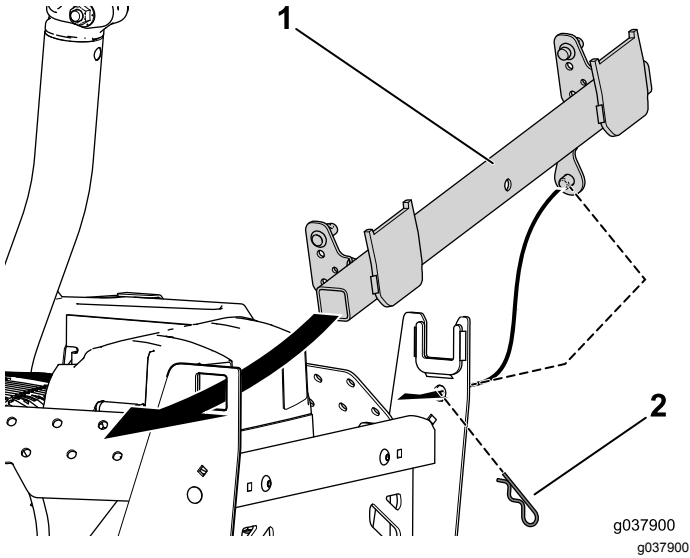

Figure 16
1. Slide the square end of the pivot assembly through the opening in the left bagger support and the post through the right support (Figure 16).
2. Install the hairpin cotter into the post to secure the pivot assembly to the bagger support (Figure 16).